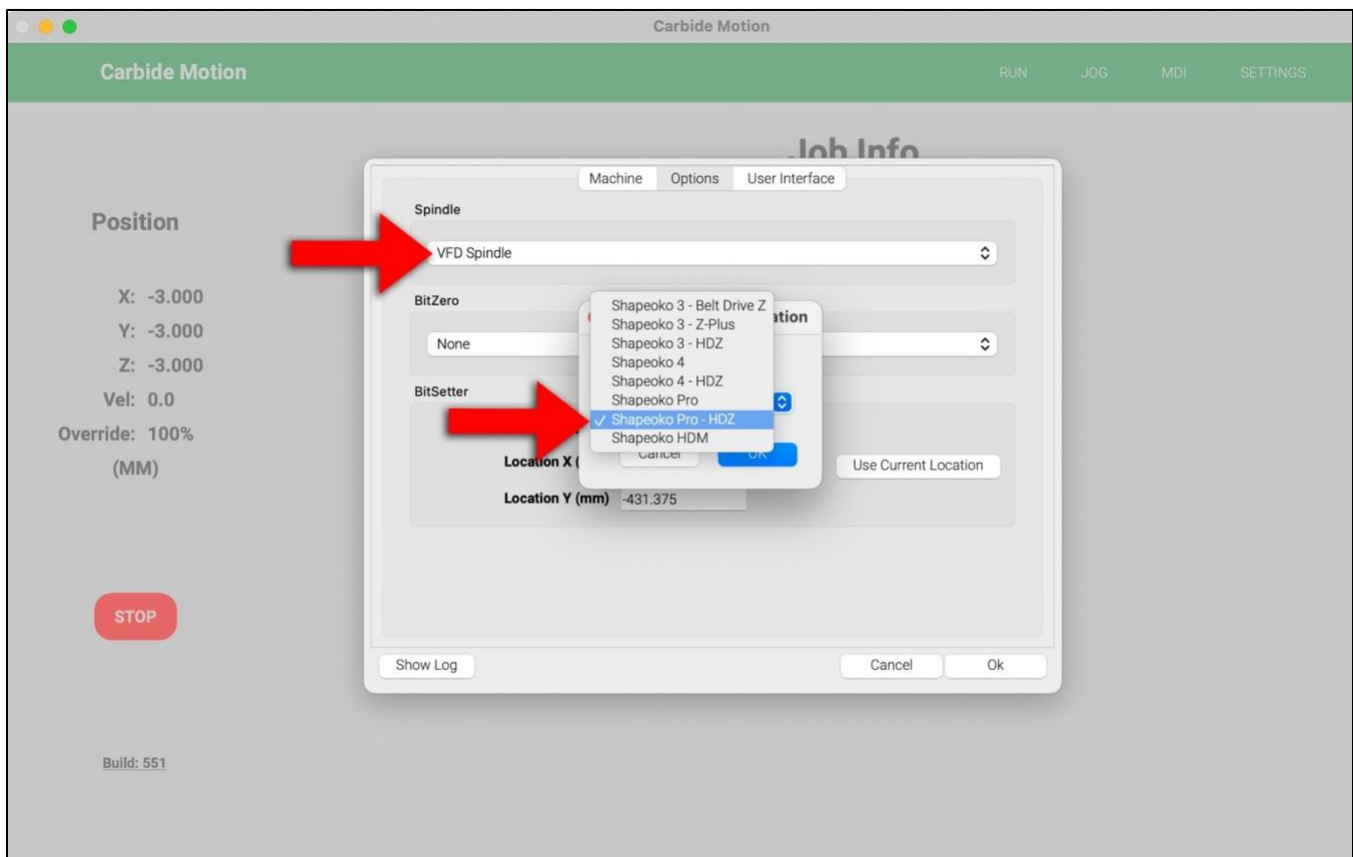

Figure 12
3. Select **VFD Spindle** in the *Spindle dropdown list*. See **Fig. 12**.